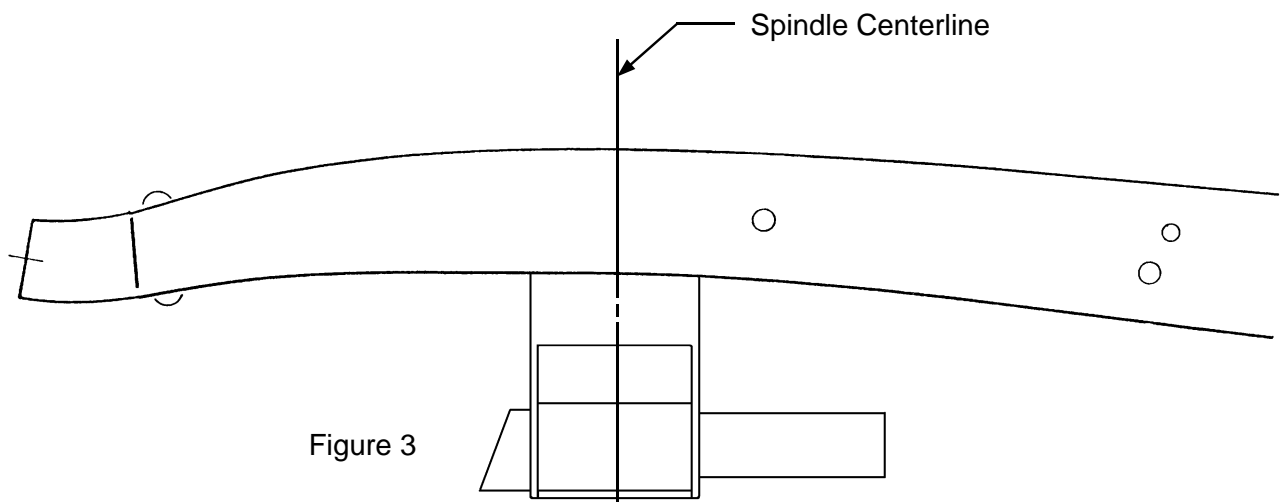

Figure 3
6. Now it is time to start fitting and installing the new crossmember. Slip it into the frame, center it on the scribed centerline (Figure 3). If it does not fit, grind the sides of the crossmember until you can get the crossmember in place, as shown. Make sure the crossmember is seated fully on the underside of the frame. Tack weld in place, check location, then weld in place, welding all around both ends, top, sides, and bottom.
7. Next are the spring towers. They sit on top of the frame rails, and are located as shown in Figure 3, (1-3/4" forward of the crossmember measuring from the front of the crossmember to the front of the spring tower). The higher side of the spring tower goes towards the front of the frame. Clamp in place, double check your dimensions, then weld all around, including the gusset flanges on the sides of the rails. For added strength, you can also weld the inside of the gusset flanges.